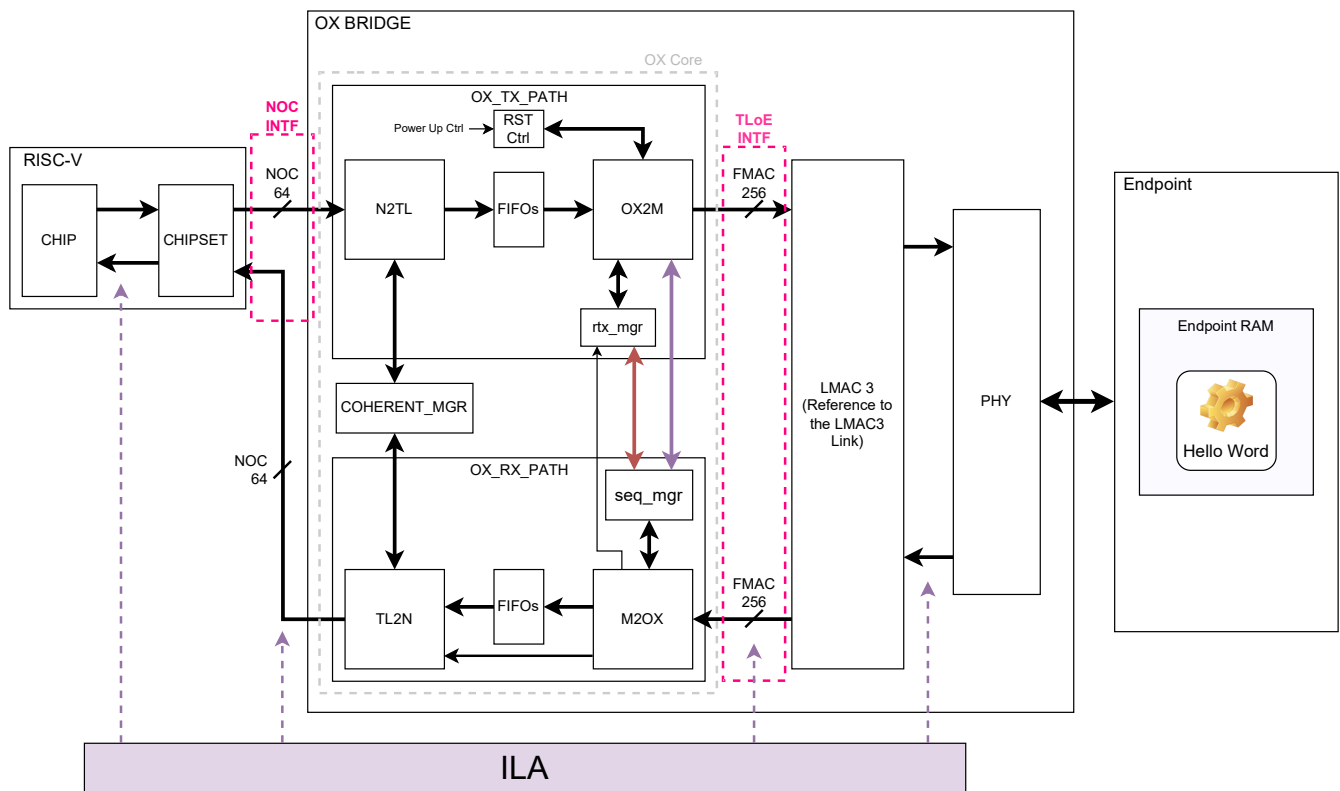

Figure 3: Internal Design of OX Bridge
A detailed overview of this design is shown in Figure 3. Here, the CPU acts as an initiator, fetching a “hello world” program from the endpoint through the OX\_Bridge. The OX\_Bridge is connected to the CPU’s Chipset via a network on chip interface (NoC Interface) and the endpoint via Ethernet, respectively. The OX\_Bridge contains an OX\_Core, LeWiz’s 100Gbps Ethernet LMAC Core 3 (refer to LeWiz’s LMAC3 for detail), and a PHY. Inside the OX\_Core, it has a TX path and an RX path. Each path is responsible for transmit and receive, respectively. In the transmit (TX) path, the OX Core converts the NoC commands from the CPU into a TileLink message, and then into TileLink over Ethernet (TloE or OX) message before delivering to the LMAC. The receive (RX) path performs the reversed order of these operation. In Figure 3, the area where an ILA is pointed at are the locations where signals are probed and used for debugging purposes.